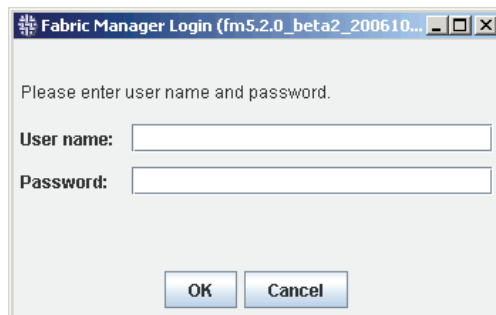

Figure 3-3 Fabric Manager Login
4. Type your user name and password in the login dialog, shown in Figure 3-3. This is the user name and password that you use to log in to the server, and *not* the ones used to log in to the switches.